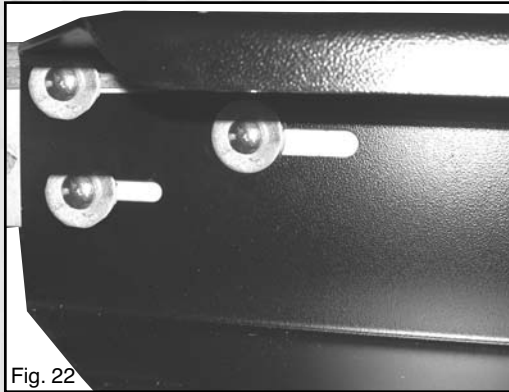

Fig. 22
5. Tighten the mounting bolts and secure the boom mount channel in position on the extension table. (Fig.22)